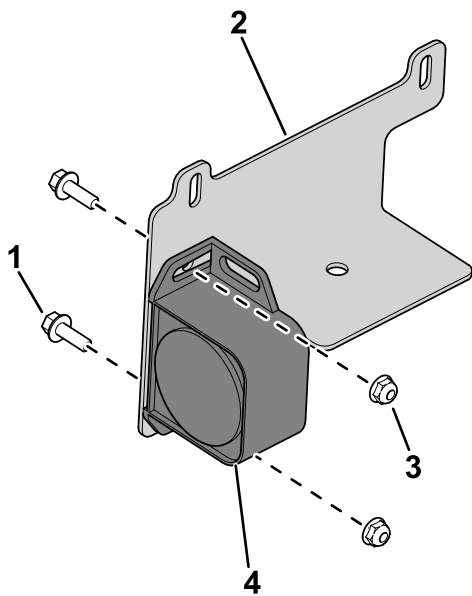

Figure 1
1. Use the bolts and nuts to secure the alarm to the mount bracket (Figure 1).